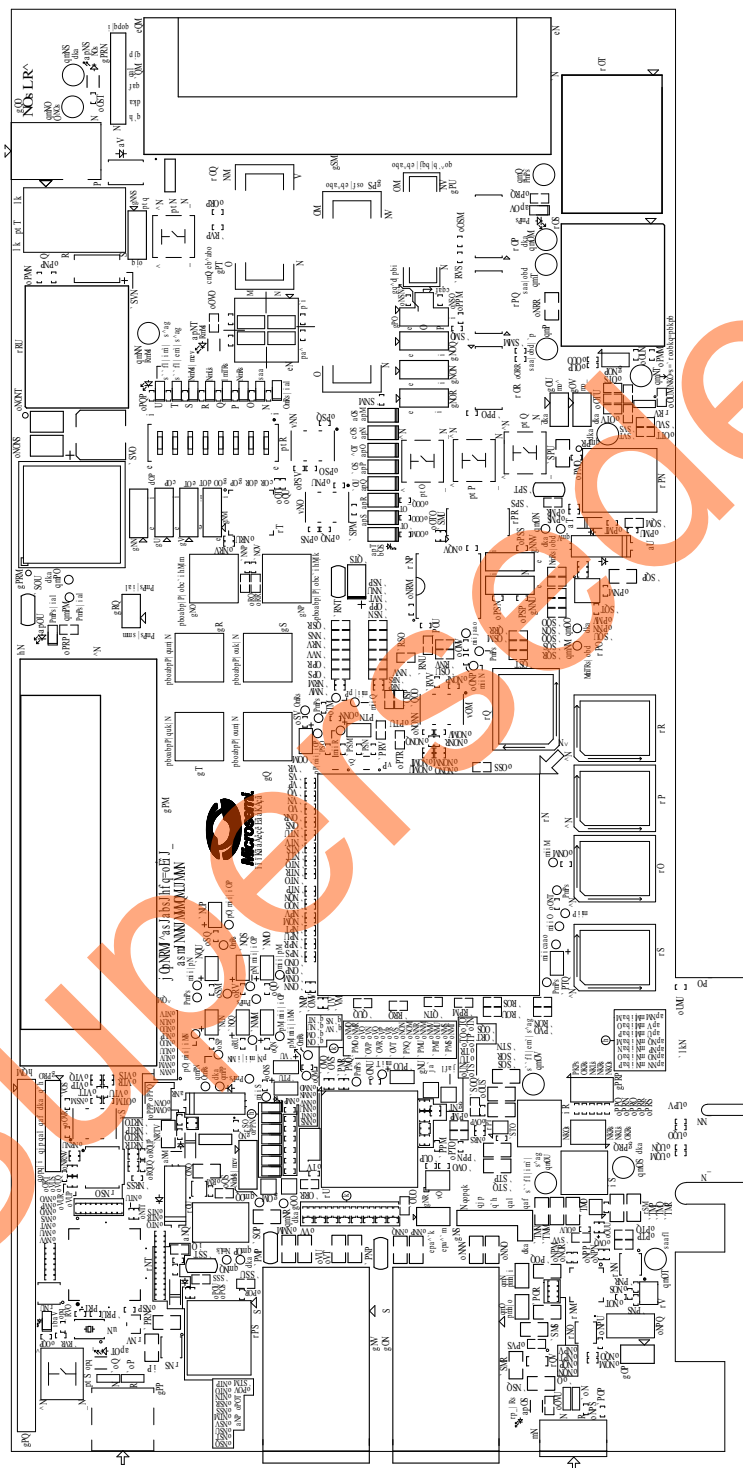

Figure 32 • SmartFusion2 Advanced Development Kit Silkscreen Top View
Figure 32 shows the jumper locations in the SmartFusion2 Advanced Development Kit Board.
- The location of the jumpers in Figure 32 are searchable.